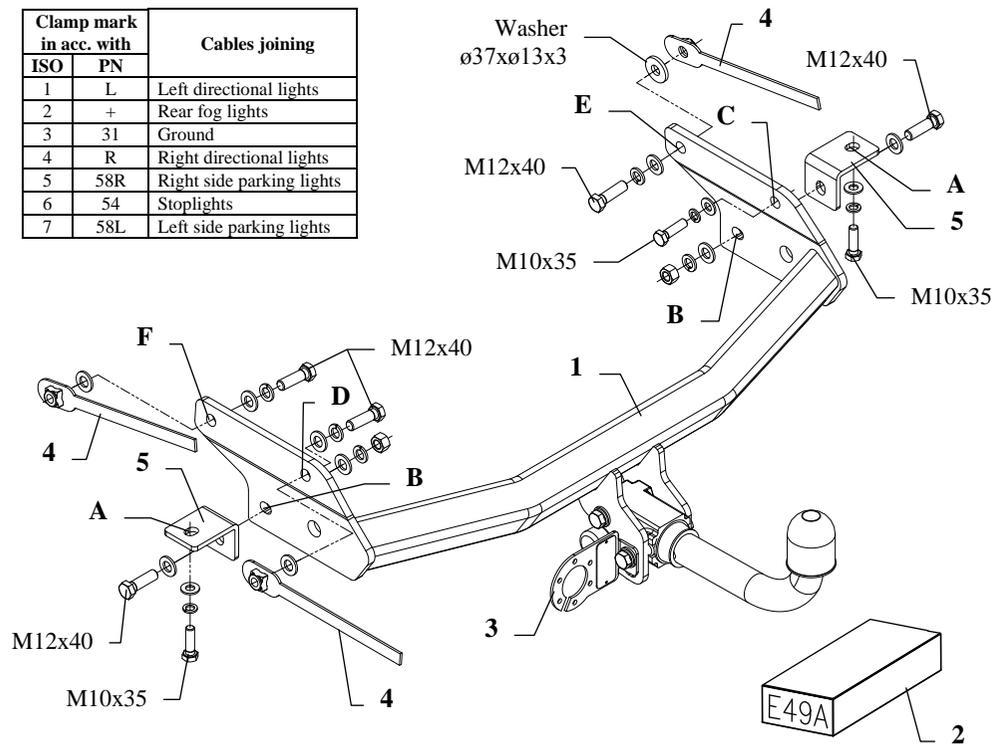

Fig. 1
3. Between installed angle bars put the main bar of the towing hitch (pos. 1) and fix using bolts M12x40mm (pos. 6) through holes (pos. B).
4. On the right side insert bolt M10x35mm in point (pos. C). On the left side insert bolt M12x40mm through hole (pos. D), use nut on the jib (pos. 4). Position the towing hitch horizontally. Drill holes (pos. E and F) in chassis members using bit ø13mm.
5. Fix the main bar of the towing hitch through holes (pos. E and F) using bolts M12x40mm and nuts on the jibs (pos. 4). On the left side remember about big washer ø37xø13x3mm (pos. 8), see figure 1.
6. Fix body of the automat and the socket plate (pos. 3) using bolts M12x25mm from accessories. Place tow-ball according to supplied instruction.